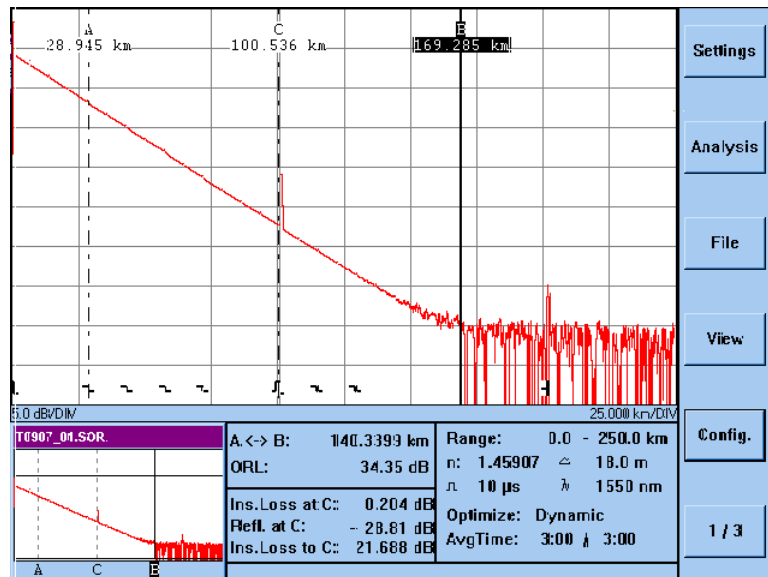

Figure 3-5
- 2 Move Marker B to where the backscatter and left rising edge of the End Reflection meet (Figure 3-5).